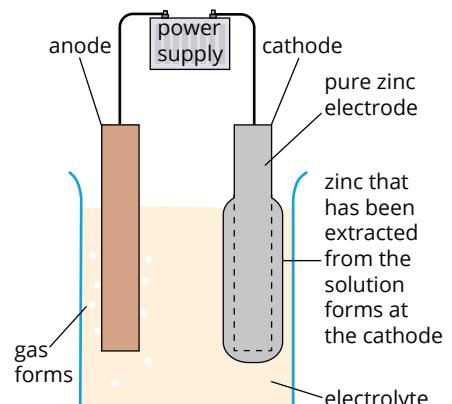

FIGURE 9.2.8 Electrolytic cell for extracting zinc.
- 3** Zinc can be extracted from its compounds by electrolysis at room temperature with the cell shown in Figure 9.2.8.